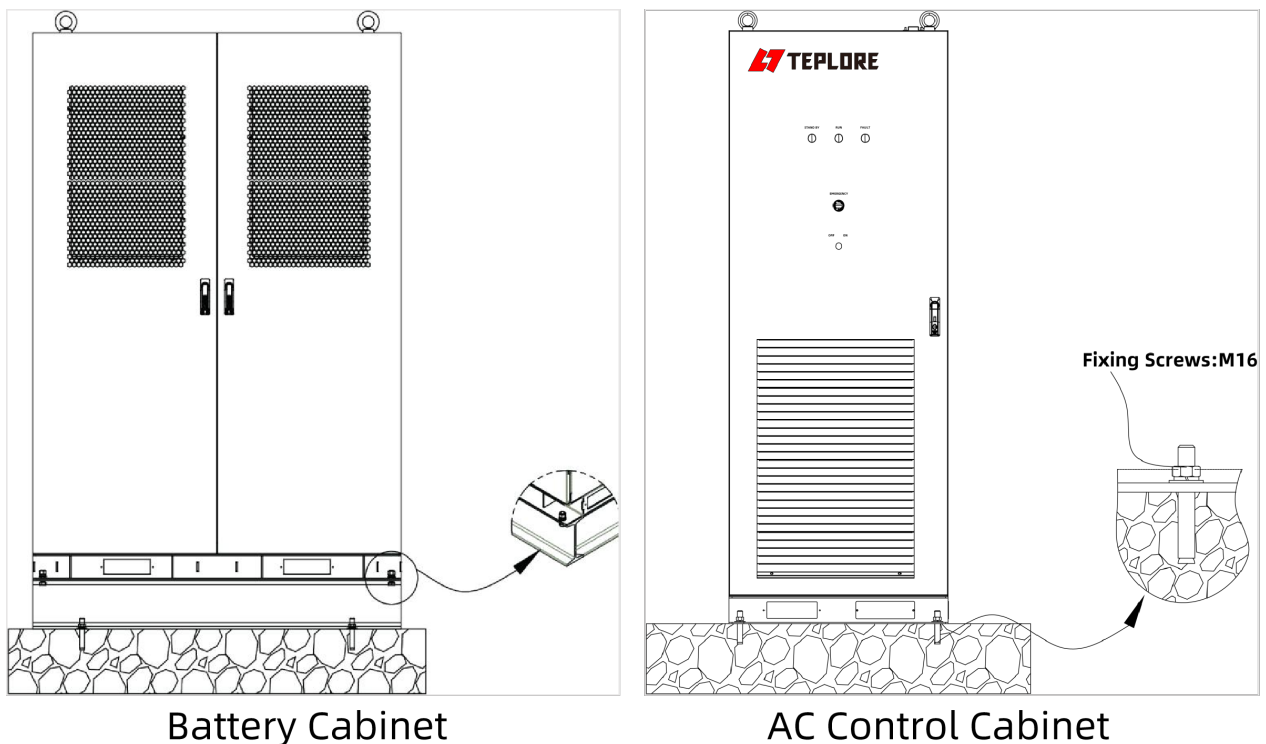

Figure 7-1: Screw the cabinets
2. Secure the cabinet at all four bottom corners with M16 fasteners as shown in Figure 7-1.